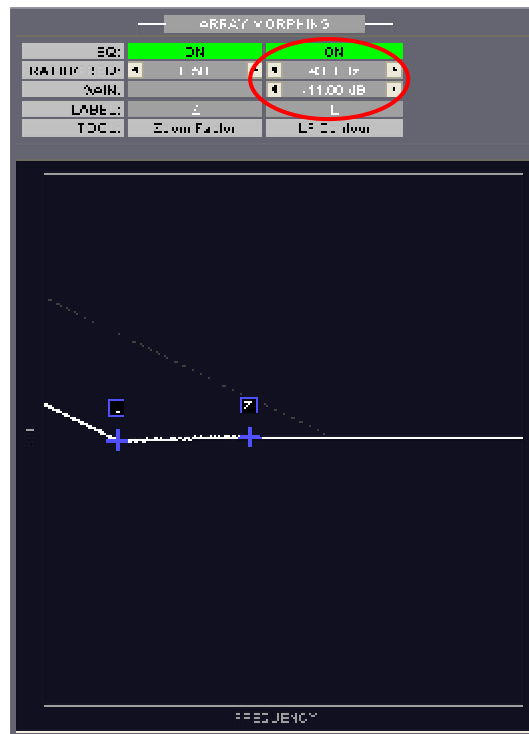

Figure 7: Setting a quite flat frequency response
- $GAIN < 0$ will allow reaching a “flat” frequency response (see Figure 7) when using a concert-touring system.